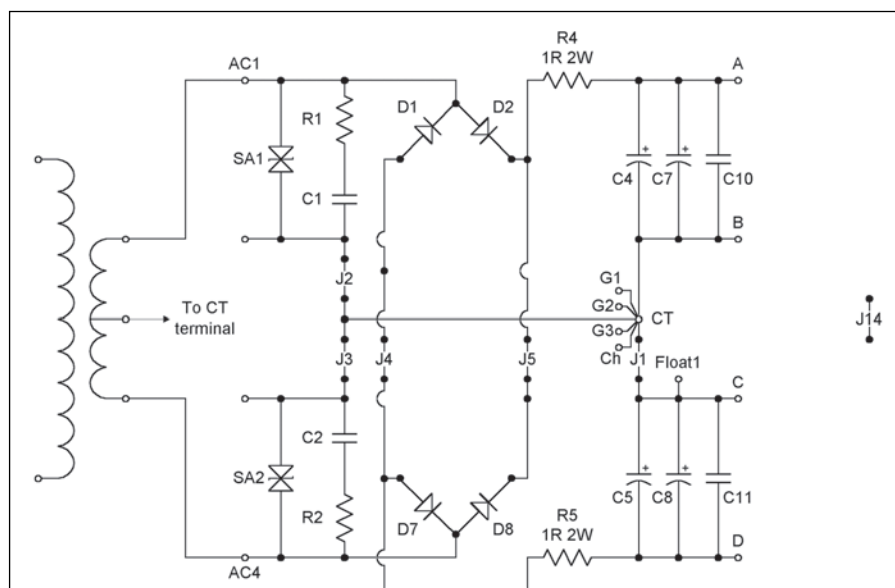

FIGURE 2A: Supplies 1 and 2 input section hookup with center-tapped transformer. Note use of J14.
1. $\pm$ voltage, center-tapped transformer (Fig. 2A). In this hookup, you'd connect the transformer's center-tap to the CT terminal on the board (duh). This produces a full-wave bridge rectifier while permitting separate snubbers for the two halves of the transformer. J1 connects the two supplies' ground sections together, producing the main power supply ground point, while J14 ties the two regulators'